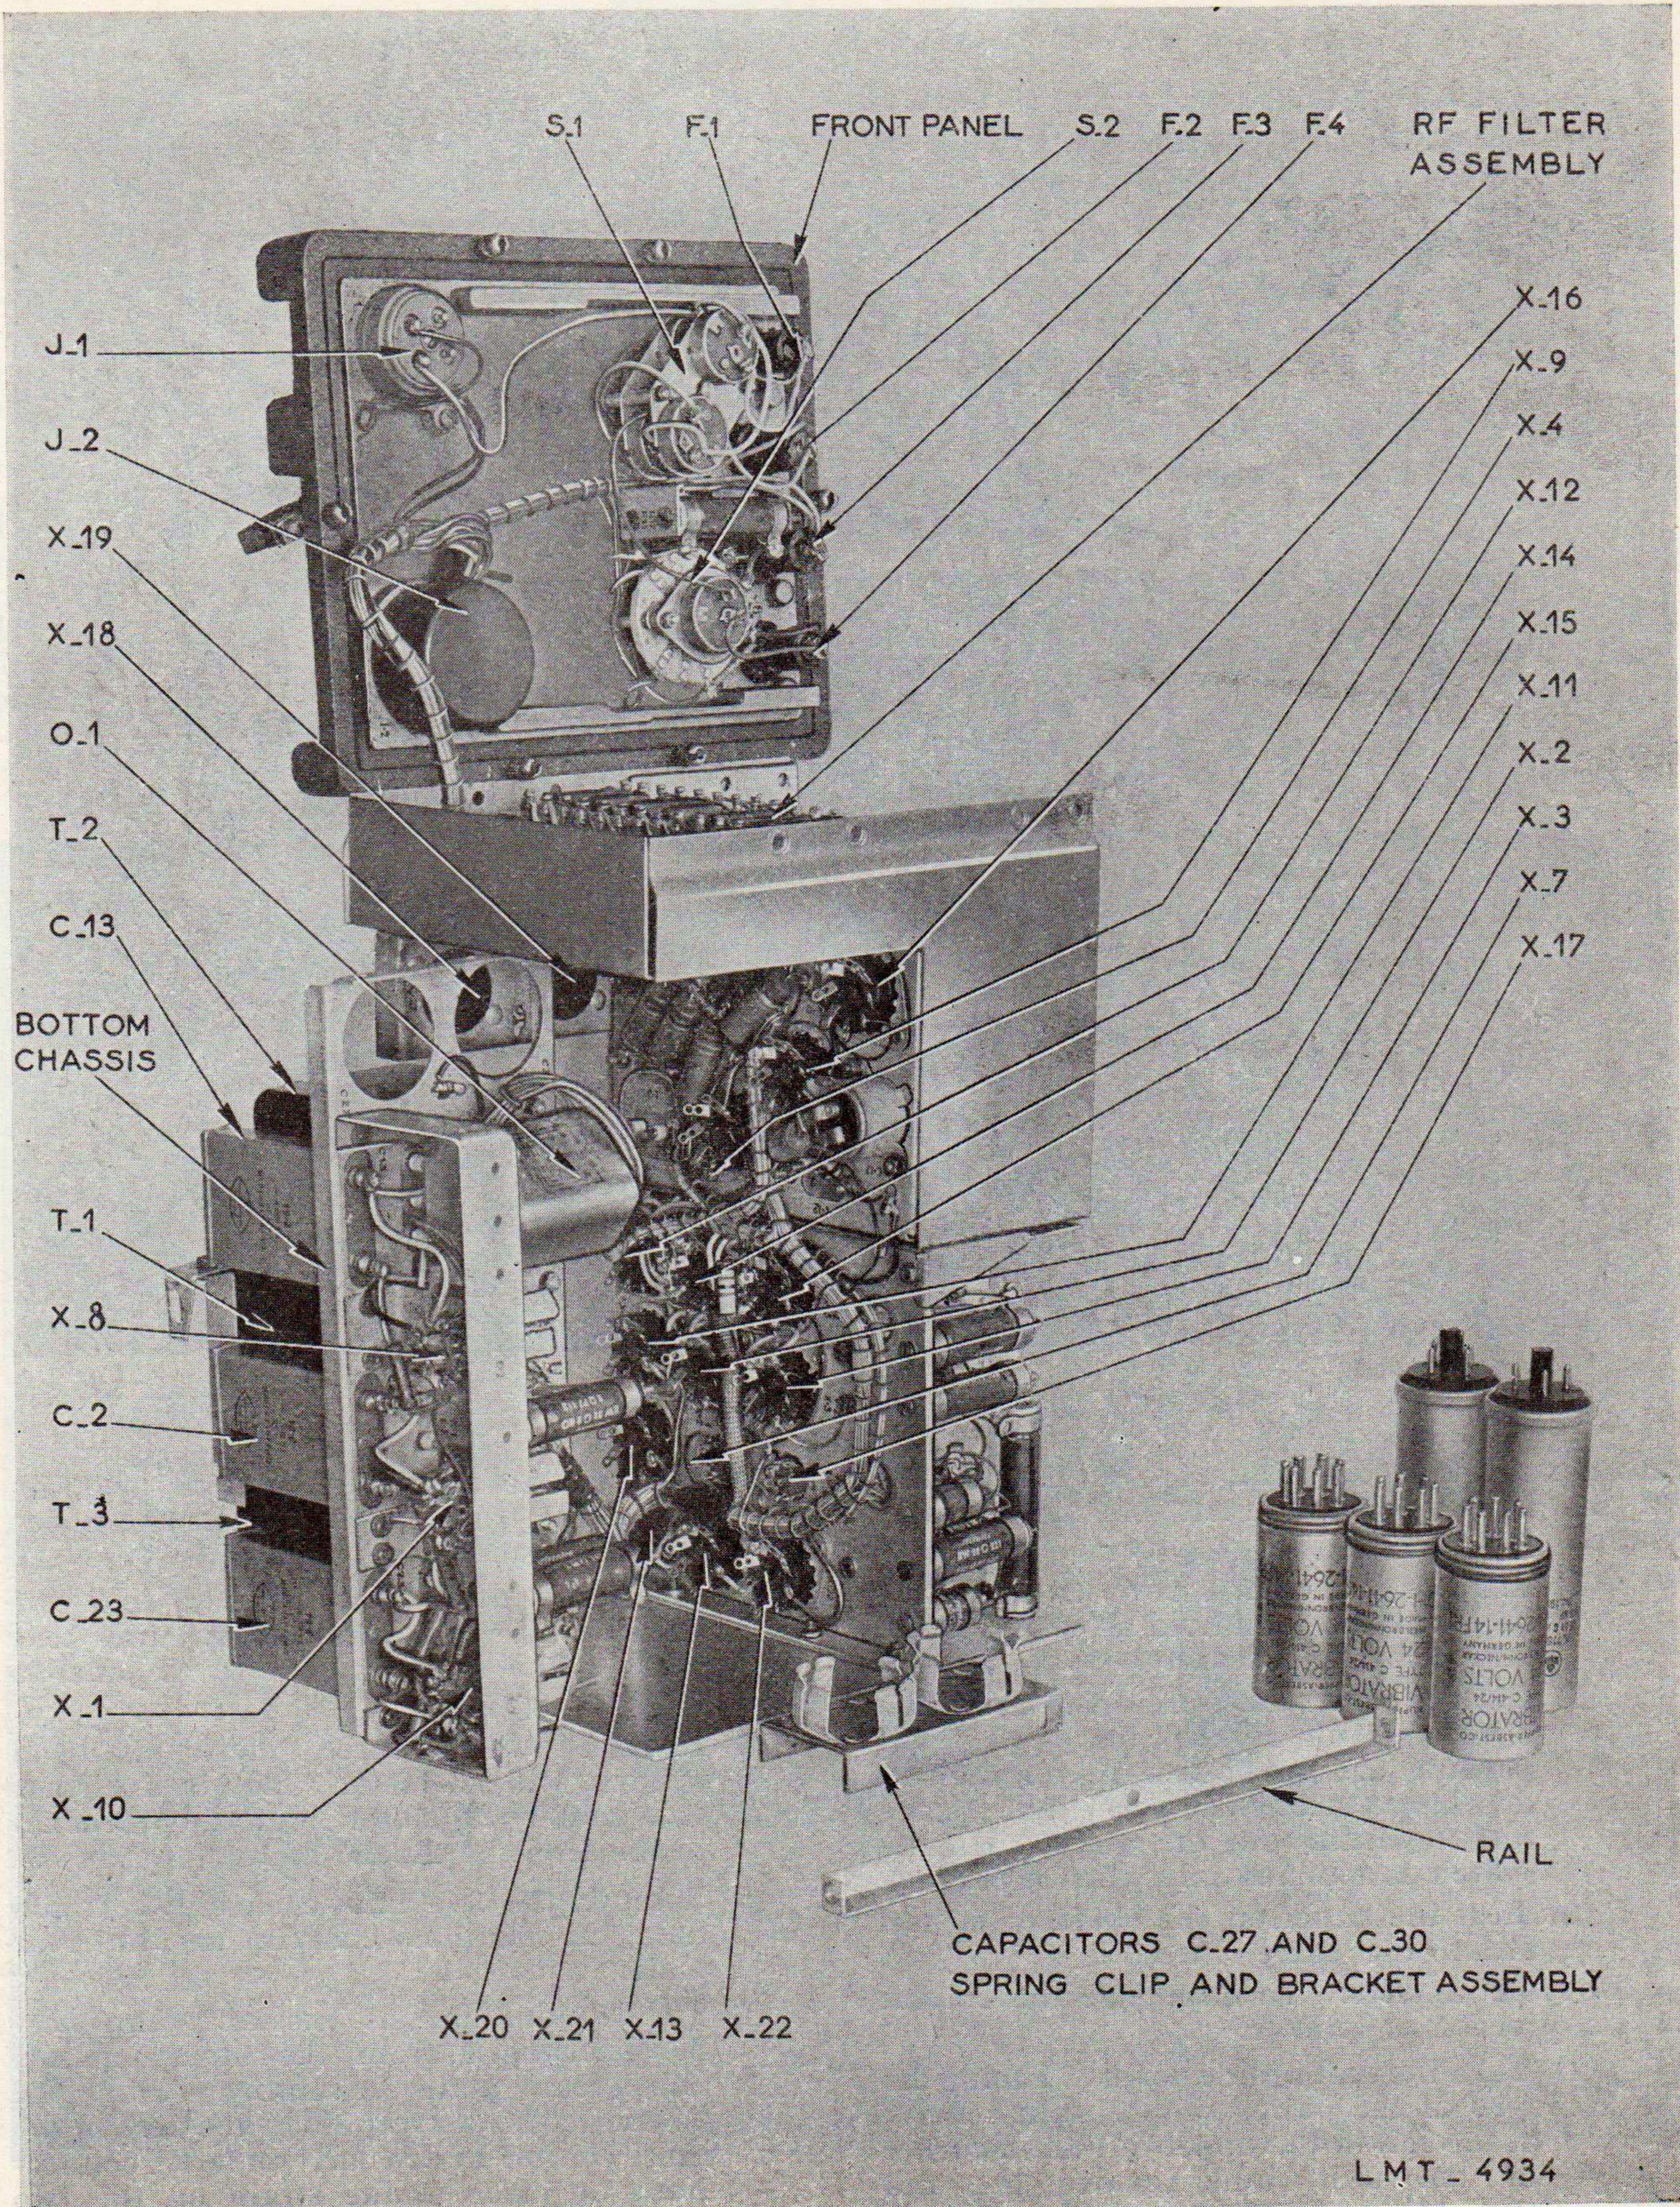

Figure 12. Power Supply PP-112/GR, disassembled view.
d. UPPER CHASSIS ASSEMBLY. After the disassembly procedure described in *b* above has been accomplished, the upper chassis assembly can be moved away from the bottom chassis. Rotate the assembly to expose the wiring on the socket terminals (fig. 12).